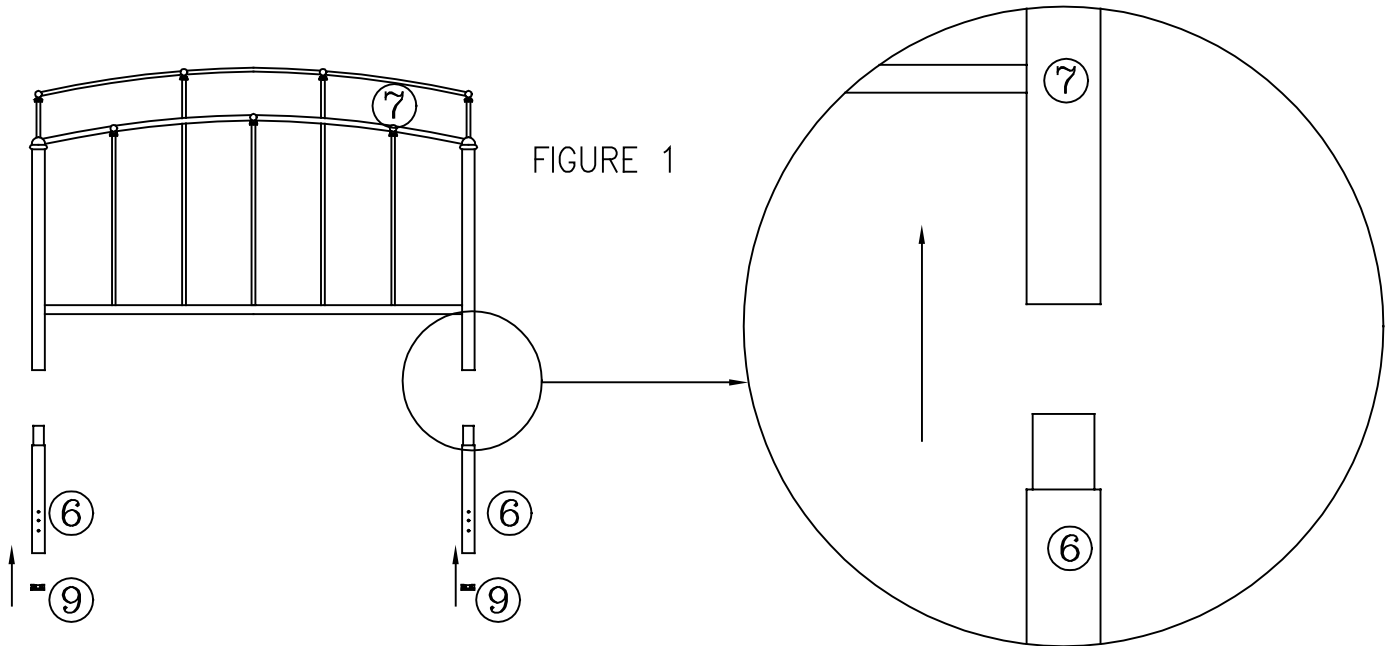

FIGURE 1
- Insert plastic glide (9) into bottom of leg extensions (6) and footboard (8) posts. (See Figure 1)
- Align top reduction of extension legs (6) with bottom of headboard posts. (See Figure 1) Make sure the 3 holes on extension legs are perpendicular to headboard panel.
- Now carefully insert extension legs (6) into bottom of headboard (7) posts.